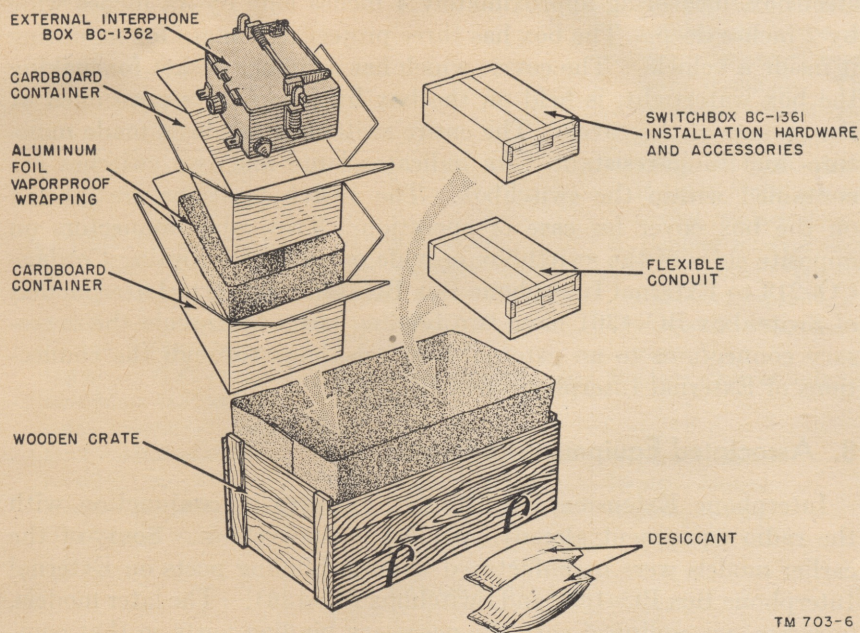

Figure 6. Packaging of Interphone Extension Kit RC-298.
Interphone Extension Kit RC-298 is packed for shipment in a wooden crate measuring $31\frac{1}{2}$ by $17\frac{3}{4}$ by $10\frac{1}{4}$ inches (fig. 6). The components are broken down into lots; each lot is contained in separate cardboard carton within the wooden crate. External Interphone Box BC-1362 is packed in a cardboard box, desiccant is added, and the entire contents are placed in another cardboard box,
b. Open the corrugated cartons and remove the aluminum foil vaporproof wrappings and any other packaging materials (fig. 6).